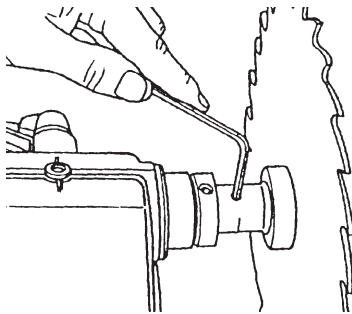

Figure 62
2. Use the 5/32" Allen Wrench to loosen the Arbor Set Screw. Remove the Saw Blade. See Figure 62.